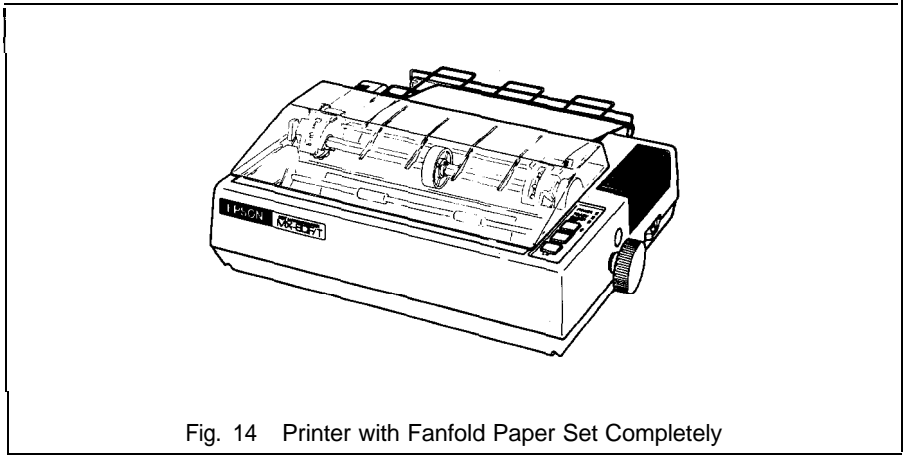

Fig. 14 Printer with Fanfold Paper Set Completely
STEP 10. Put the printer lid on the Printer. (See Fig. 14.)